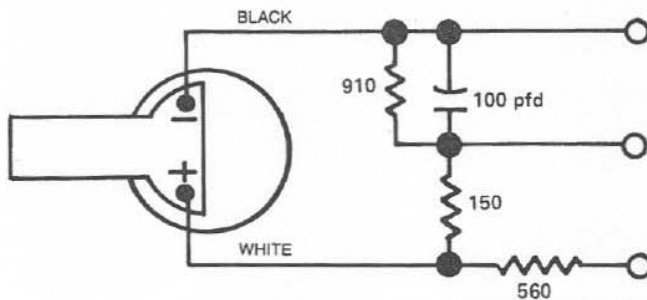

FIGURE 3 — Test Circuit
6. **Test Procedure:** (See Figure 3)
8. **Check of Microphone Output:** The best procedure for testing the microphone is to compare its output with one known to be operating properly, using the test set-up as shown in Figure 3. Check the output voltage as follows: